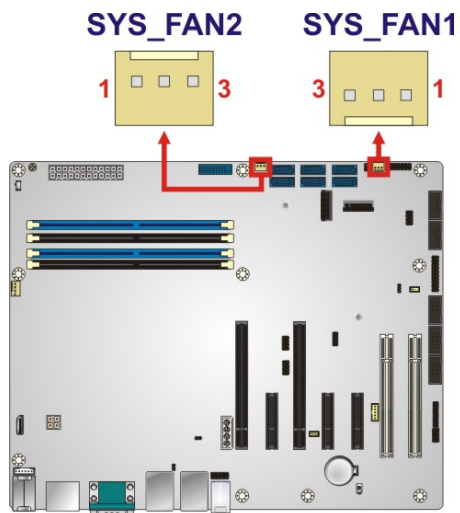

Figure 3-12: System Fan Connector Locations
- CN Location:** See Figure 3-12